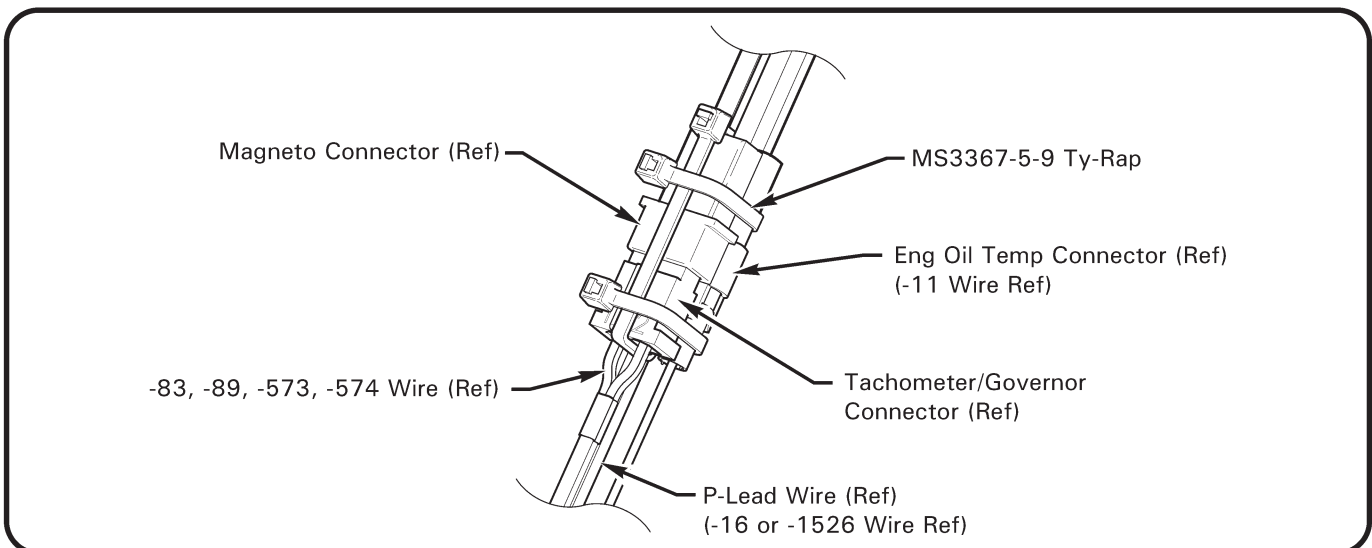

FIGURE 2
5. Plug 2-pin connector into airframe wiring and secure with MS3367-5-9 ty-raps per Figure 2 as required. Cinch ty-raps until snug without overtightening and trim ty-rape tips flush with heads.